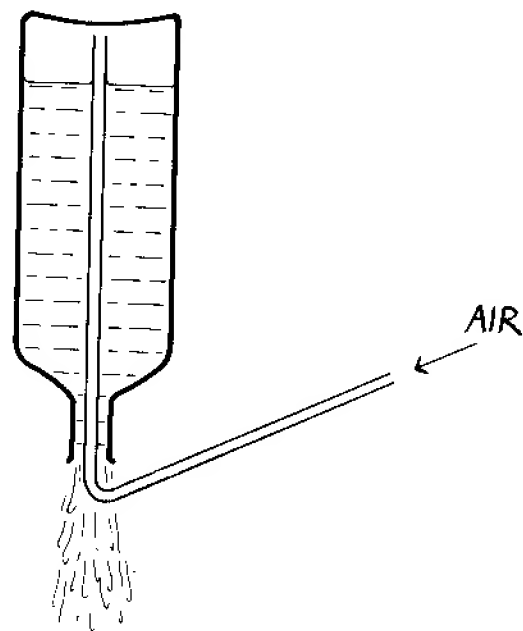

Figure 24.3 The glass tubing method
5. Holding a piece of glass tubing with a knee-bend in the inverted bottle so that, as the water flows out, air flows in through the tubing (see Figure 24.3).